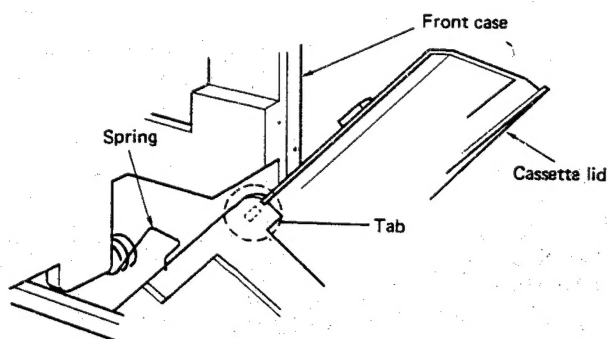

Fig. 1
1) Open cassette lid (TAPE 1) to remove the spring shown in Fig. 1.